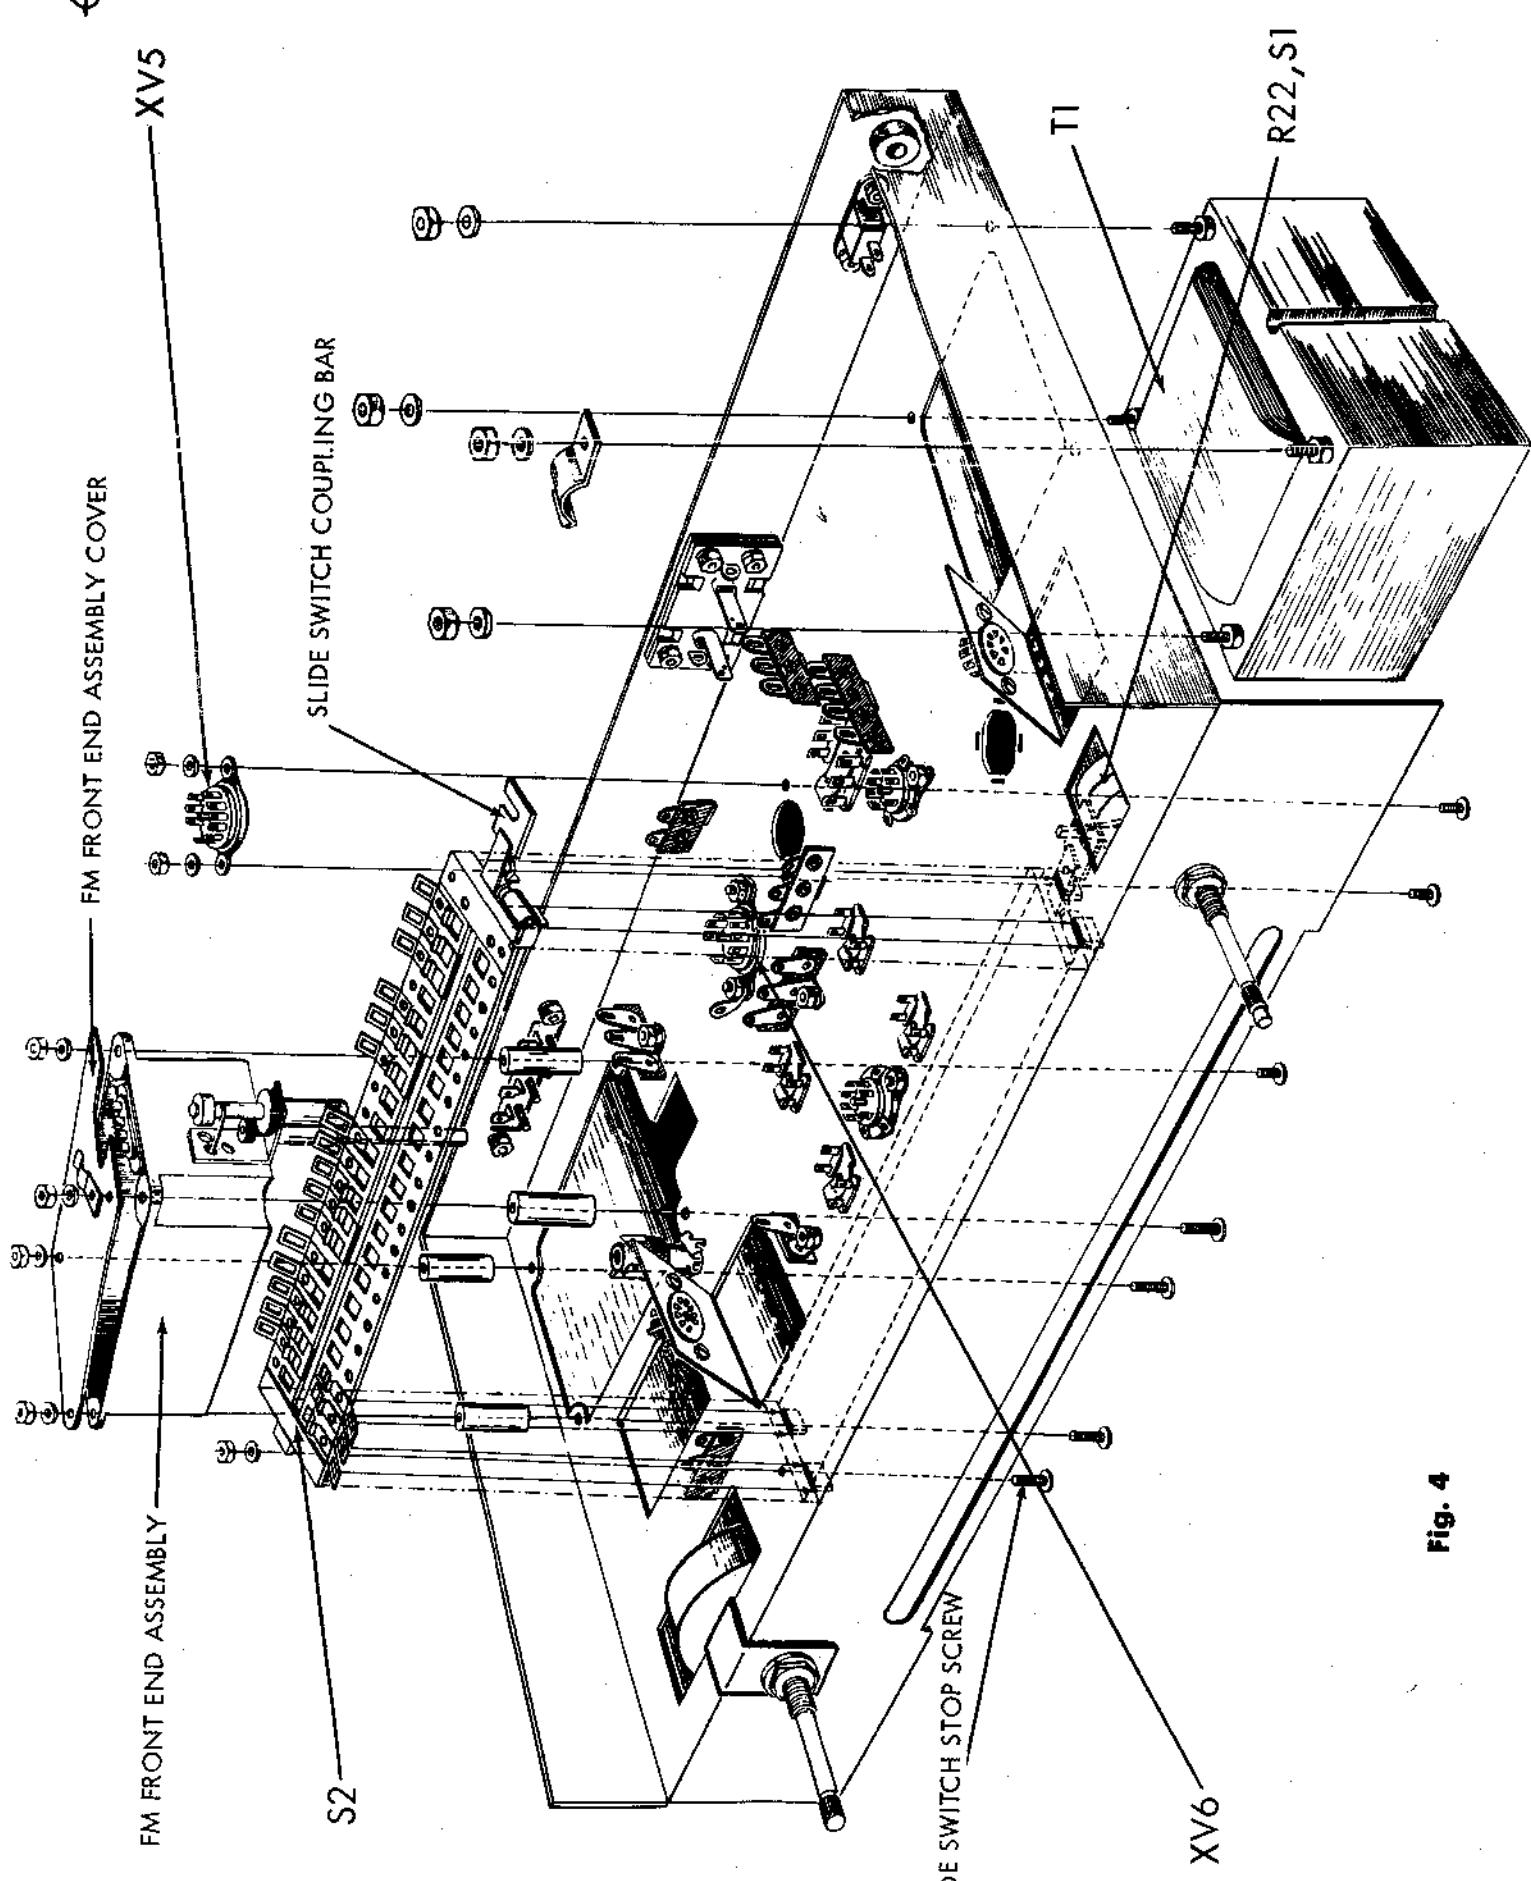

Fig. 4
- (v) 1. Fig. 4. Mount the two nine pin miniature tube sockets, XV5 and XV6, as shown. Use two #4-40 screws and two #4-40 hex nuts. On XV5, use two #4 lockwashers under the hex nuts. On XV6, use one #4 lockwasher under one hex nut and one #4 ground lug under the second hex nut. Note orientation in figure 5.
- (v) 2. Fig. 4. On power transformer T1, cut both green leads, one red lead and the white leads to 4". Cut the red-white and the second red lead to 5". Cut both black leads to 2". Strip 1/4" of insulation off from the ends of each of these leads. Mount the power transformer as shown, with the red leads close to the side of the chassis, away from the center. Use four #8 lockwashers and four #8-32 hex nuts. Under one of the lockwashers, mount a cable clamp. The two green leads, the two red leads, the red white lead and the white lead are to be run under this cable clamp.
- (v) 3. Fig. 4. Mount the FM Front End Assembly as shown. Use four #6-32 x 1 1/8" screws, four 11/16" aluminum spacers, four #6 lockwashers and four #6-32 hex nuts. The screws are passed through the four holes through the top of the chassis. The spacers are placed over these screws from the bottom of the chassis. The FM Front End Assembly is placed over these spacers with the FM Front End Assembly cover over this. Each screw and the FM Front End Assembly is secured to the chassis with the four lockwash-
(v) 4. Fig. 4. Mount the 6-32 x 3/8" slide switch stop screw as shown from above the chassis. Use a #6 lockwasher and a #6-32 hex nut to secure the screw to the chassis.
(v) 5. Fig. 4. Mount the large slide switch, S2, as shown. Slip the slide switch coupling bar over the actuating lever protruding from the rectangular hole under the potentiometer-slide switch combination, R22, SI. It may be necessary to move the slide switch lever when doing this. Insert the four tabs on the slide switch through the four small slits near the front of the chassis. Twist all four tabs about 1/4 turn. Do not twist too much or the tabs will shear off.